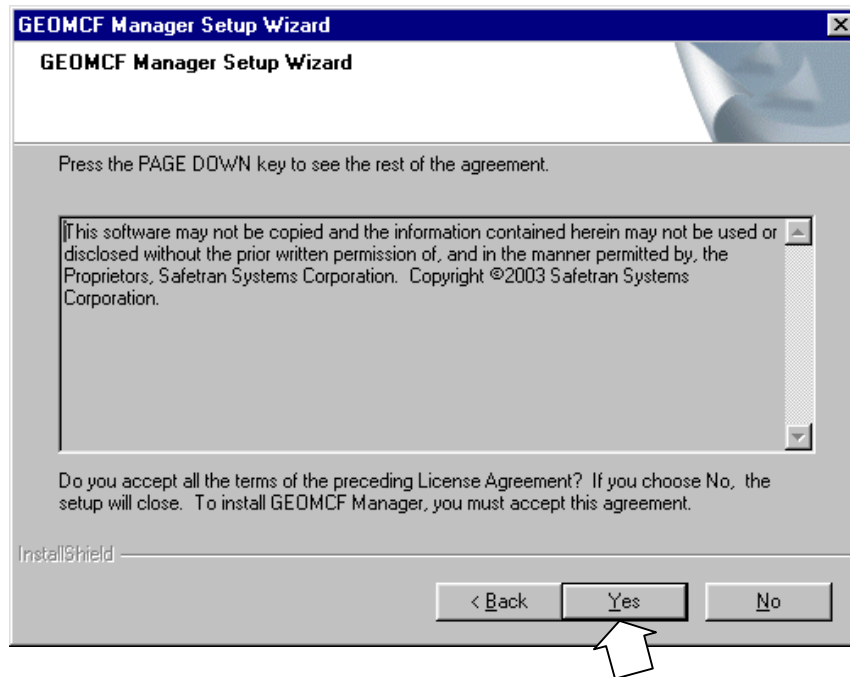

Figure 1-9
1. If this is a first time installation of the GDT utility on this computer, the “License Agreement” window is displayed (figure 1-9).